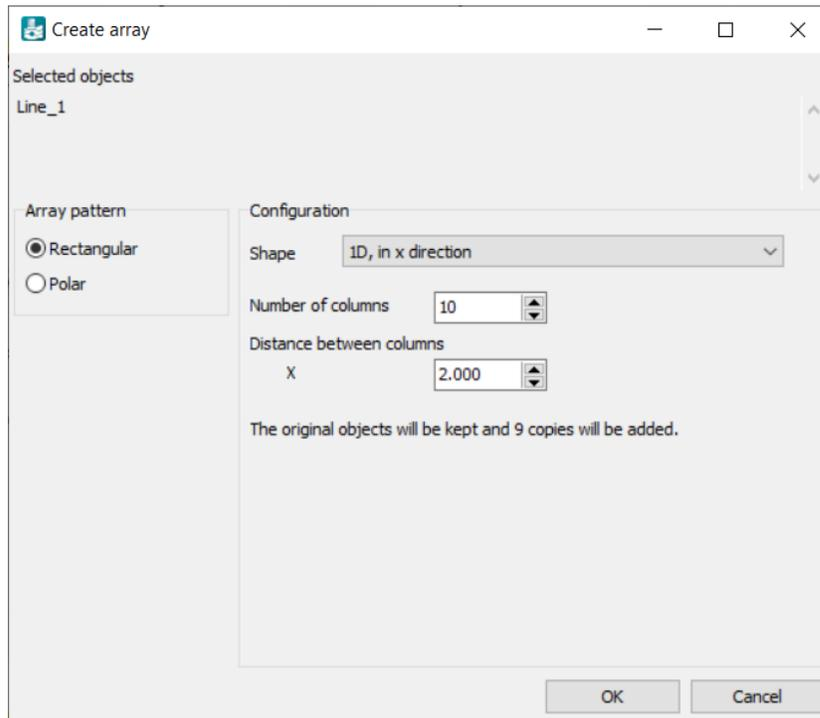

Figure 89: Settings of the drain pattern
4. In the **Create array** window select the menu item **Shape > 1D, in x direction** in the drop-down menu and specify the pattern as shown in Figure 89 (on page 115).